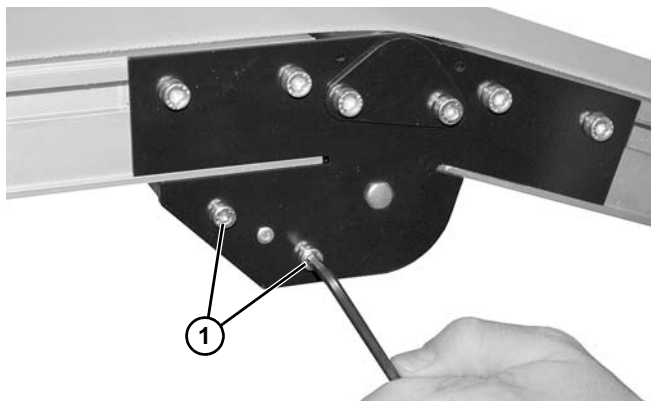

Figure 124
1. Remove screws (Figure 124, item 1) on both sides of conveyor.